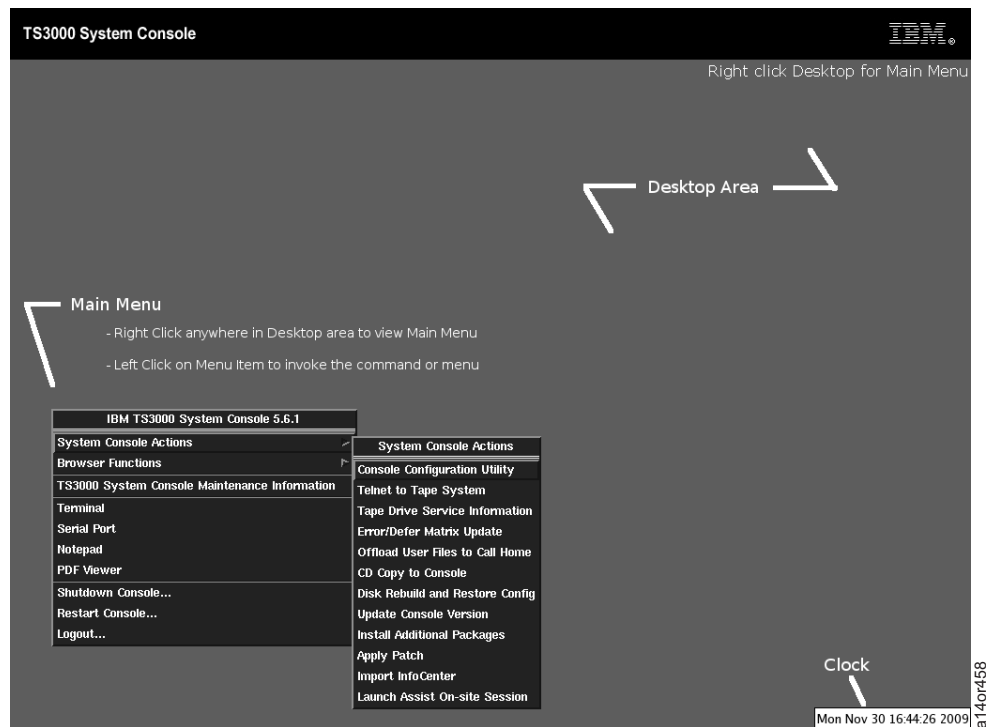

Figure 2-52. System Console Main Menu. Notice that the System Console Main Menu appears after you right click inside the Desktop Area.
5. Login to the console using the ID and password posted on the screen. The System Console Main Menu shown in Figure 2-52 appears.
1. Right click from anywhere in the Desktop to view the Main Menu shown in Figure 2-52.